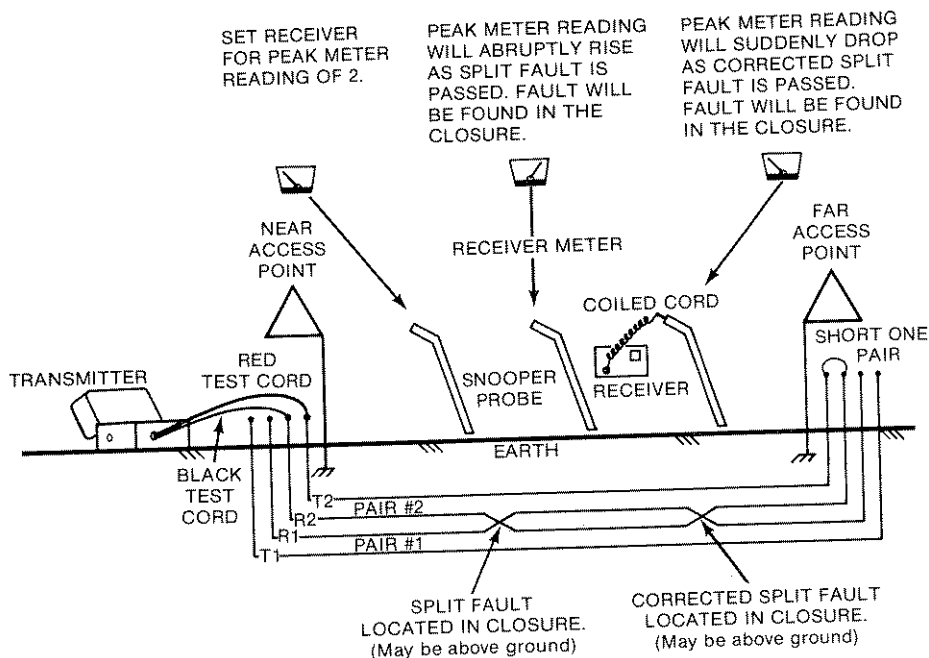

Figure 3-8.
1. Disconnect and isolate the cable sheath and one of the two wire pairs (associated with the split and corrected split faults) at the far access point. Short together the isolated wire pair (see Figure 3-8).
2. Disconnect and isolate the cable sheath and necessary wires at the near access point (see Figure 3-8).
3. Hook up the red and black test cord clips at the near access point (see Figure 3-8).
4. Plug the jack end of the red/black test cord into the RED/BLACK TEST CORD jack receptacle on the transmitter (see Figure 3-8).